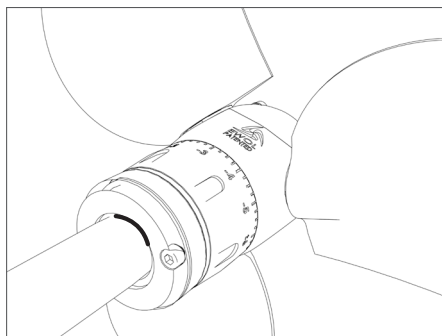

FIG. 15 Insert the propeller up to the mark made with the felt-tip pen
- The propeller must be fitted onto the cone of the propeller shaft until it reaches the mark made before key insertion (**Fig. 15**); failing this indicates that the key is too high and prevents the propeller from fitting completely. In this case you will have to reduce the thickness of the key and then reinstall the propeller.